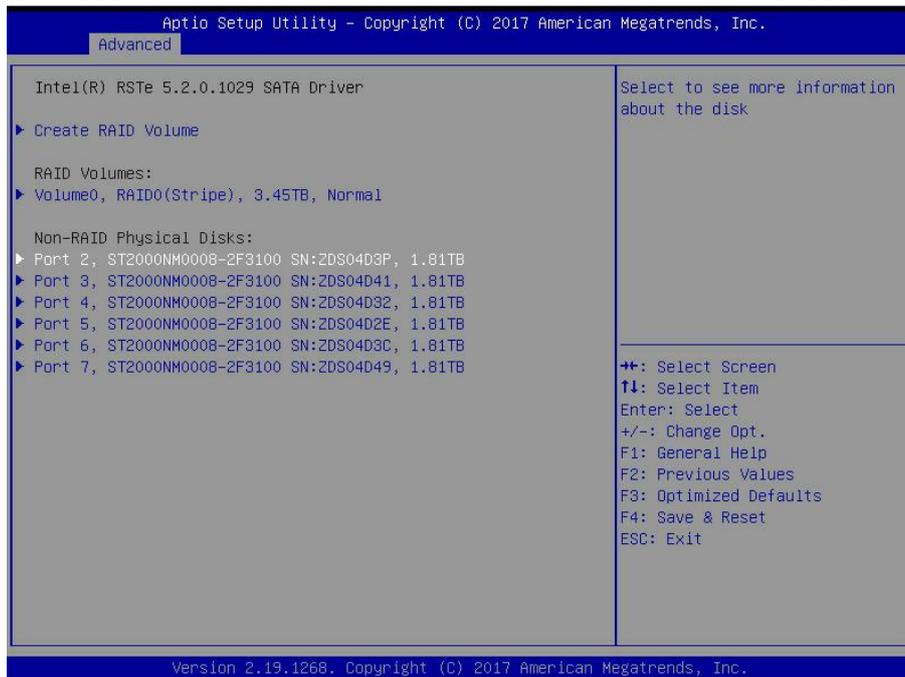

Fig.6.8
a) As shown in Fig. 6.8, select the disk to be configured as a hot spare and press Enter.